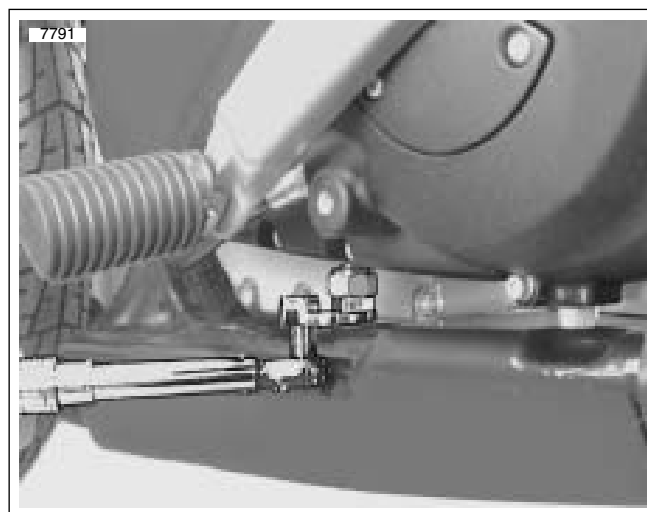

Figure 6-6. Torquing Chain Limiting Screw
2. See Figure 6-6. Tighten chain limiting screw to 24 in-lbs (2.7 Nm).